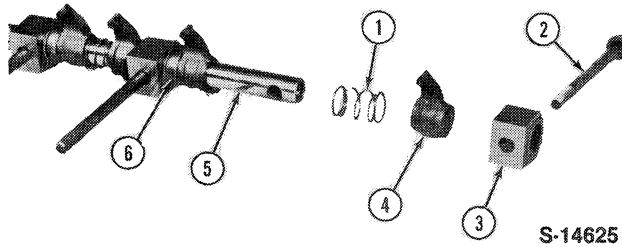

Figure 11
5. Remove the cylinder head bolts which pass through the rocker shaft supports and slide the rocker shaft components from the shaft, Figure 11.